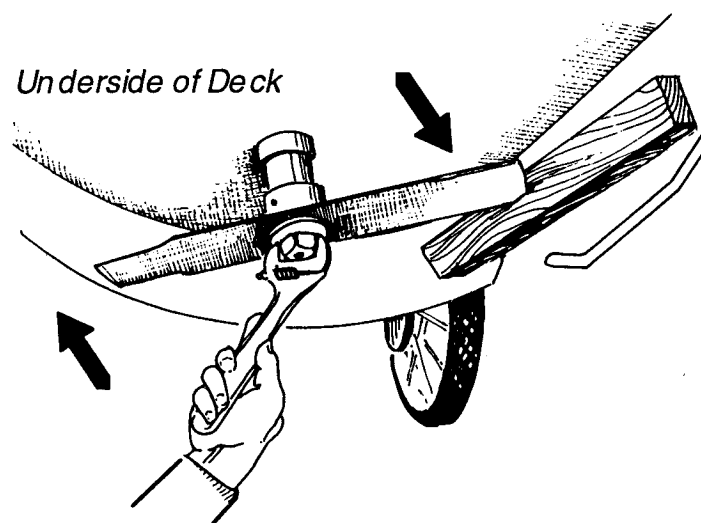

Figure 21
5. Facing the blade from below, wedge a 2 x 4 between the blade and the side of the mower deck (*Figure 21*). You may want to wrap the ends of the blade with rags to prevent cutting your hand.